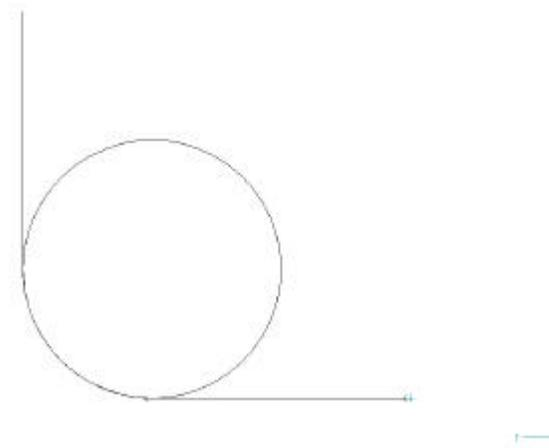

Figure 2-5: Bilge Circle Template
3. In the Create Curve dialogue box that appears, select the **Arc** tab, type the following information and click **OK** when you are finished. (See Figure 2-5.)